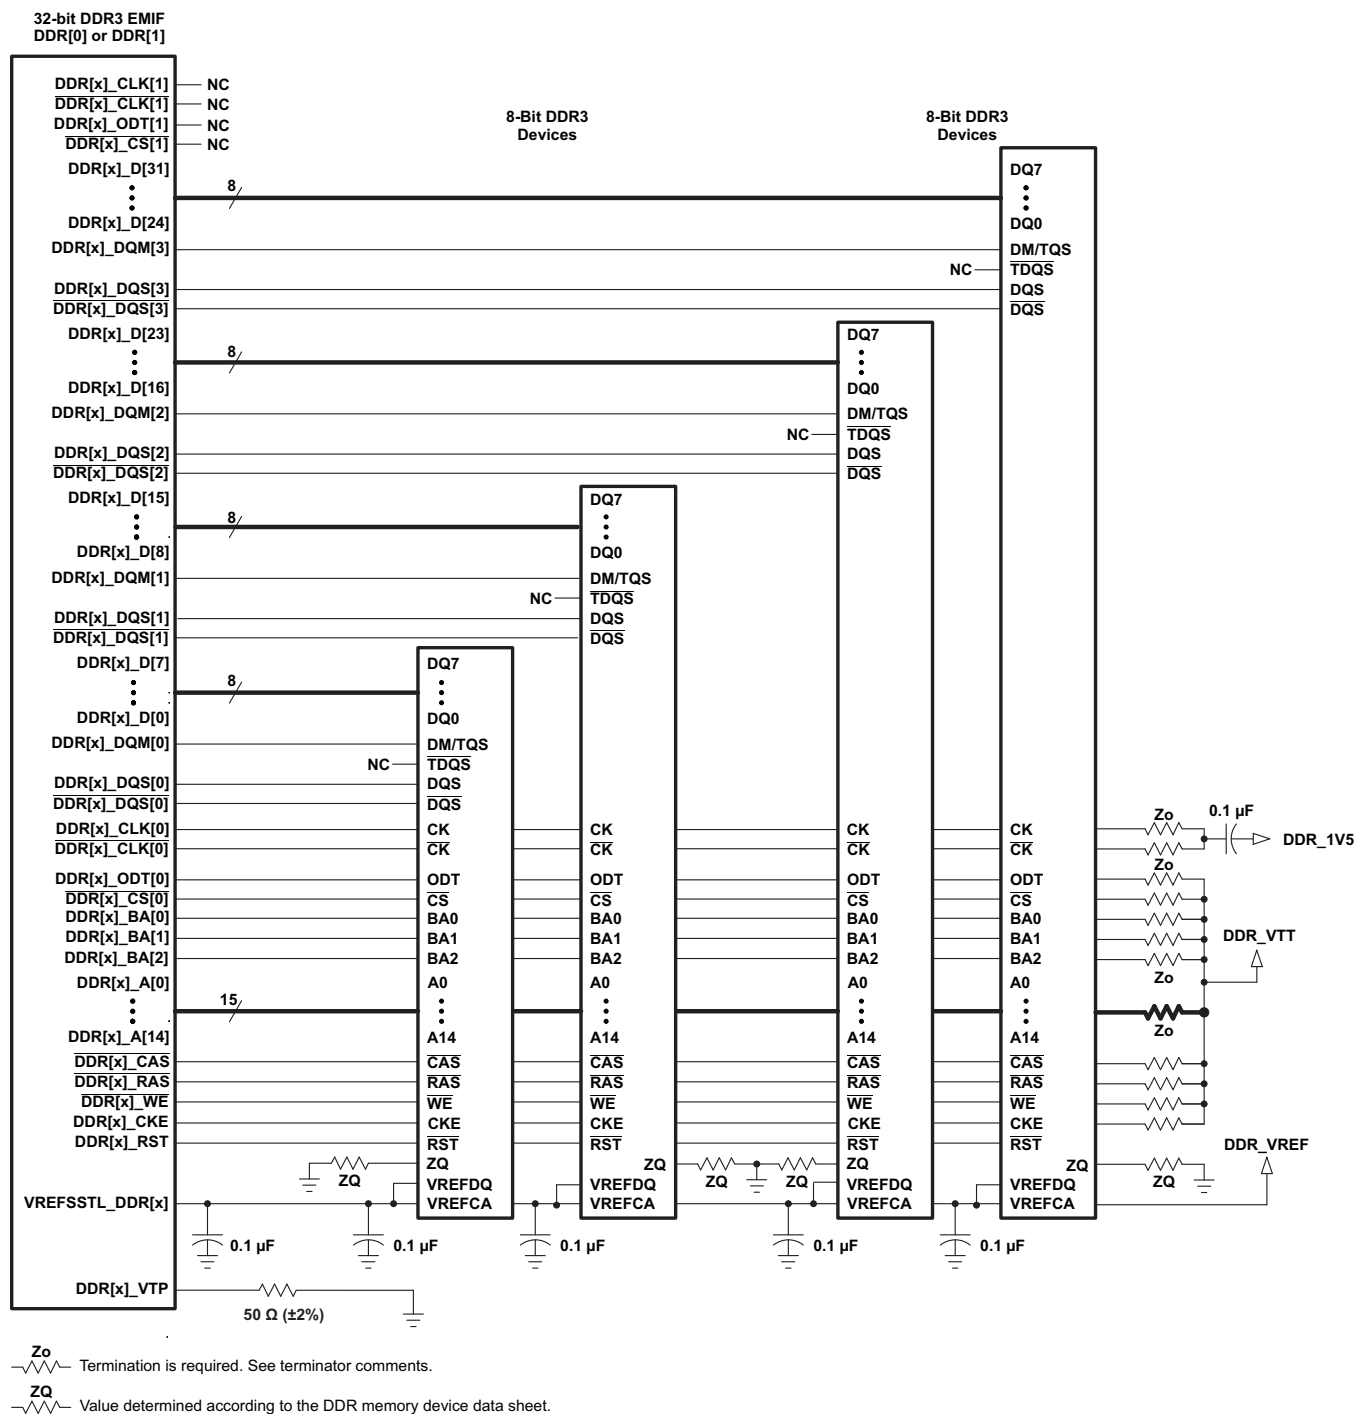

Figure 9-14. 32-Bit, One-Bank DDR3 Interface Schematic Using Four 8-Bit DDR3 Devices
The DDR3 interface schematic varies, depending upon the width of the DDR3 devices used and the width of the bus used (16 or 32 bits). General connectivity is straightforward and very similar. 16-bit DDR devices look like two 8-bit devices. Figure 9-13 and Figure 9-14 show the schematic connections for 32-bit interfaces using x16 devices.
Note that the 16-bit wide interface schematic is practically identical to the 32-bit interface (see Figure 9-13 and Figure 9-14); only the high-word DDR memories are removed and the unused DQS inputs are tied off. The processor DDR[x]_DQS[2] and DDR[x]_DQS[3] pins should be pulled to the DDR supply via 1-kΩ resistors. Similarly, the $\overline{\text{DDR}}[\text{x}]_{\text{DQS}}[2]$ and $\overline{\text{DDR}}[\text{x}]_{\text{DQS}}[3]$ pins should be pulled to ground via 1-kΩ resistors.
(1) DDR3 speed grade depends on desired clock rate. Data rate is 2x the clock rate. For DDR3-1600, the clock rate is 800 MHz.
(2) For valid DDR3 device configurations and device counts, see Section 9.3.2.3, Figure 9-13, and Figure 9-14.